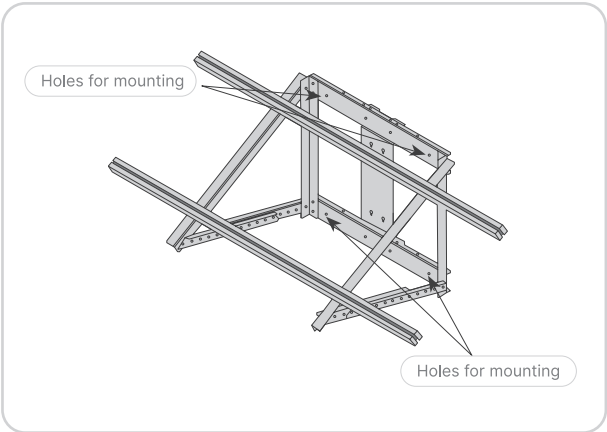

Figure 8. Installation on a wall.
b. For installation on a Wall, refer to Figure 8. Use appropriate *Bolts or *Screws with a maximum diameter of 8 mm. * these are not included in the package.